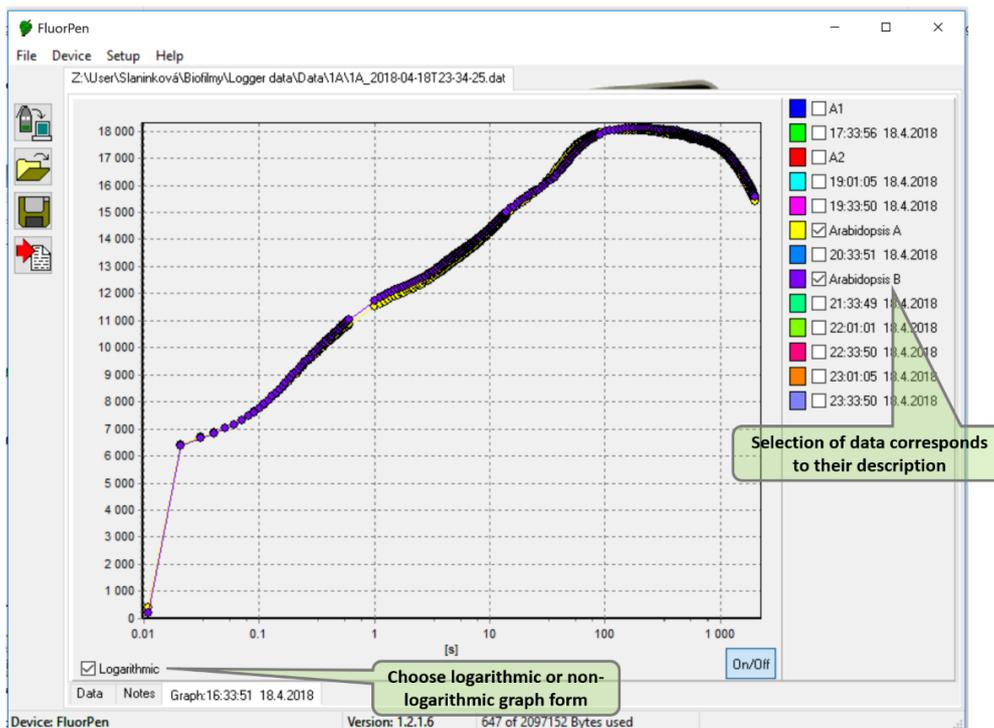

Fig. 22 Graphic visualization of experiment.
5. The selected set of data will be shown on the graph (Fig. 22).